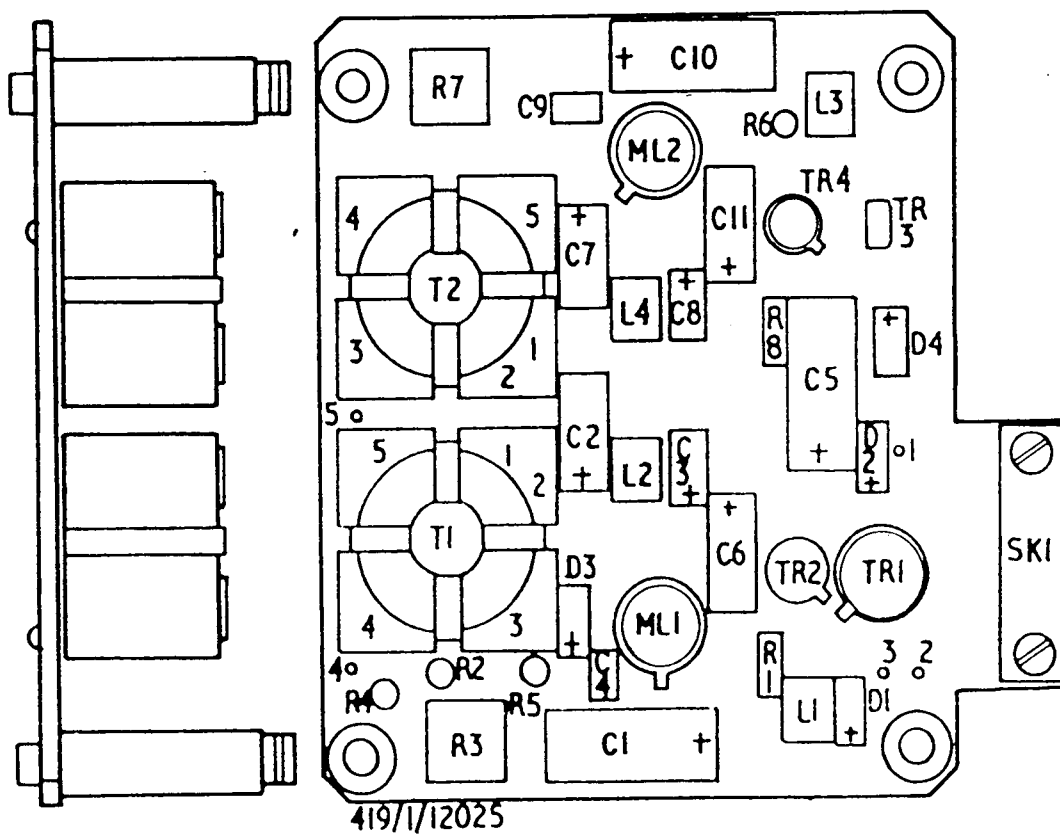

Fig. 5 Panel, electronic circuit, (unit 5a) - component layout
19. The principal component parts of the Panel, electronic circuit 419/1/12025 (Unit 5a) (see fig.5) are: